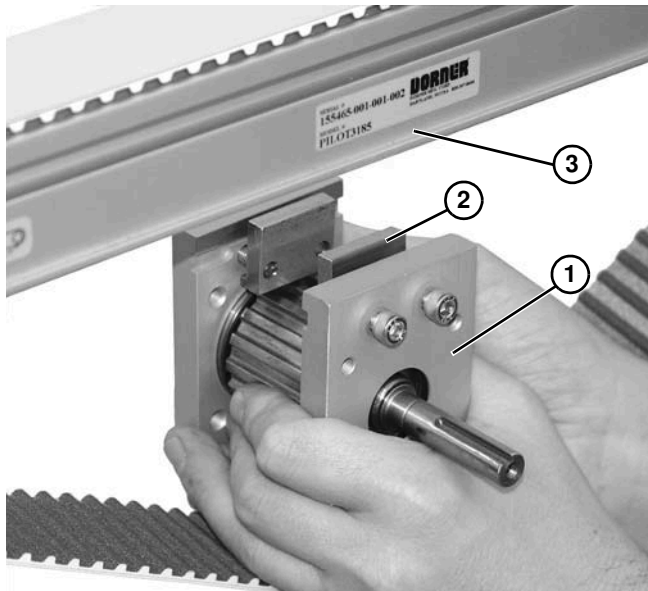

**Figure 87**
6. Install mounting block (**Figure 87, item 1**) onto spindle (**Figure 87, item 2**).